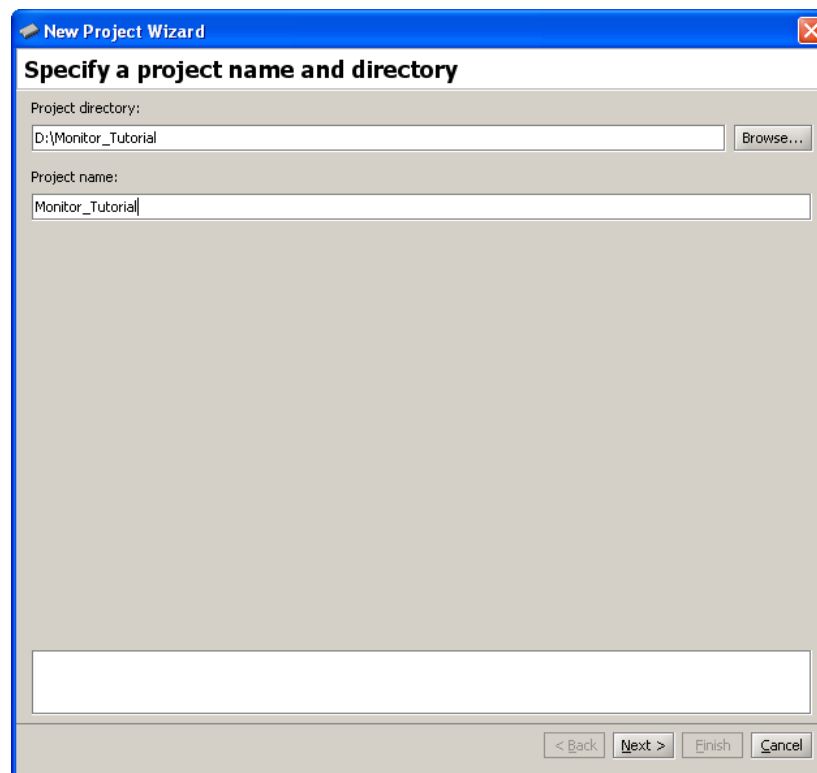

Figure 6. Specifying the project directory and name.
1. Select **File > New Project** to open the *New Project Wizard*, as illustrated in Figure 6. This Wizard presents a sequence of screens for defining a new project. Each screen includes a number of dialogs, as well as a message area at the bottom of the window. The message area is used to display error and information messages associated with the dialogs in the window. Double-clicking the mouse on an error message moves the cursor into the dialog box that contains the source of the error.
In Figure 6 we have specified the file system directory *D:\Monitor_Tutorial* and the project name *Monitor_Tutorial*. For simplicity, we have used a project name that matches the directory name, but this is not